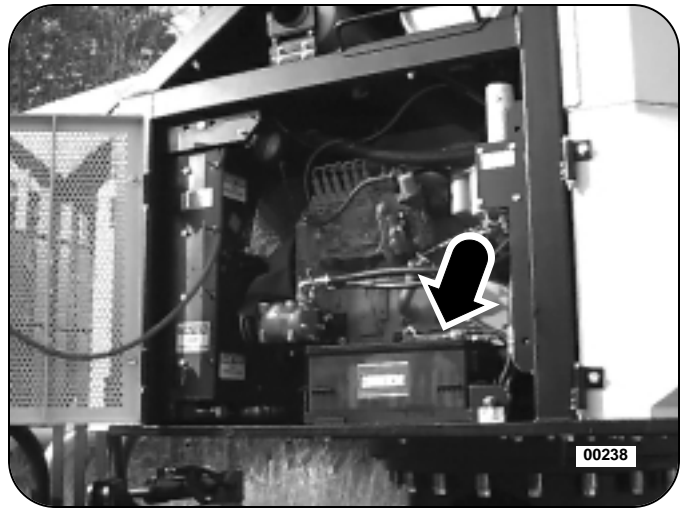

Figure 2: Battery Location
3. Open the perforated swing-out engine guard to gain access to the battery. See Figure 2.